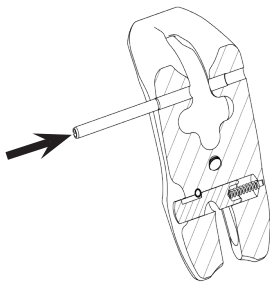

Fig. 27:
2. If used again, insert a new matching original RUD locking pin using a hammer (direction as in Fig. 27).